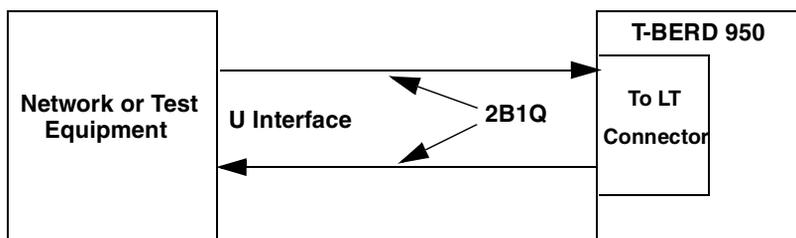

Figure 43 • ISDN BRI NT1/TE in Terminate Mode
The NT1/TE mode allows the unit to emulate a Network Termination (NT1) and Terminal Equipment (TE) simultaneously. This mode is used to place calls at the U interface. The ISDN BRI option emulates Terminal Equipment (TE) at the U interface and is available with the ISDN test type. In the NT1/TE mode, you can manually loopback the U interface. Figure 43 shows ISDN calls placed and received using the D-channel for either B-channel.